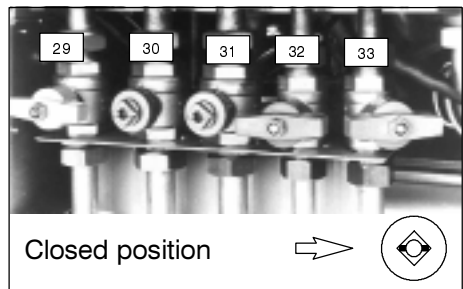

fig. 6.3
- 1 Turn off the cold water in (32) and domestic hot water out (33) cocks in fig. 6.3
- 1 Turn off the central heating system flow (31) and return (30) cocks (fig. 6.3).